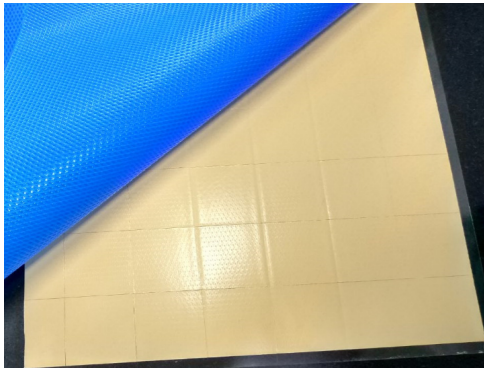

Fig.1
1. Remove the diamond liner by separating it from the pad at one corner. Peel back the liner in one swift, consistent motion as close to an 180° angle as possible. A light diamond embossing on the pad surface is expected due to the high compliancy of the material. (Fig.1)